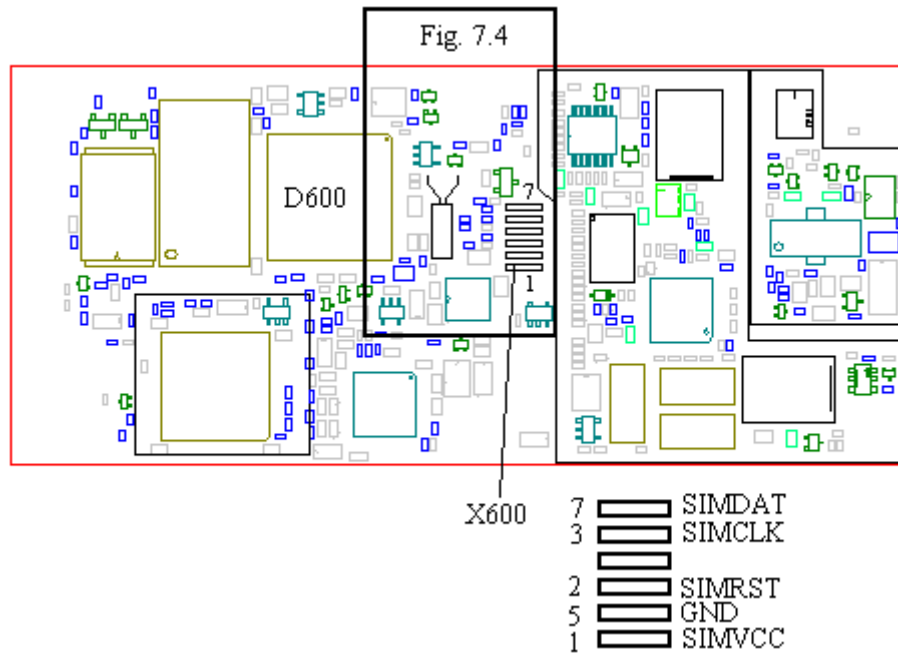

Fig. 7.3
Fig. 7.3 shows the component side of the circuit board.
Open the phone and check for water damage. Clean the SIM pads, X600 (fig. 7.3), using alcohol and a brush.
Make sure there are no faulty solderings at D600 pins 72-75 and 64 (fig. 7.3).
Measure the resistance from the marked side of R600 to X600 pad 2 (~0 ohms), from the marked side of R627 to X600 pad 3 (~0 ohms) and from the marked side of R628 to X600 pad 7 (~0 ohms, all in fig. 7.3 and 7.4).
- If the resistances are correct, replace D600 (class B, fig. 7.3).